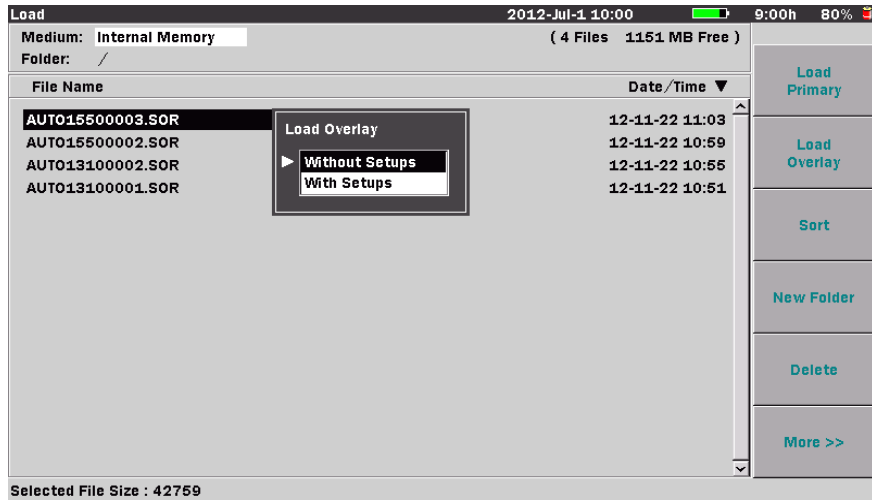

Figure 4-38: Load Overlay Dialog box
3. Select **Load Overlay** (**f2**), the Load Overlay dialog box appears. See Figure 4-38 on page 4-94.